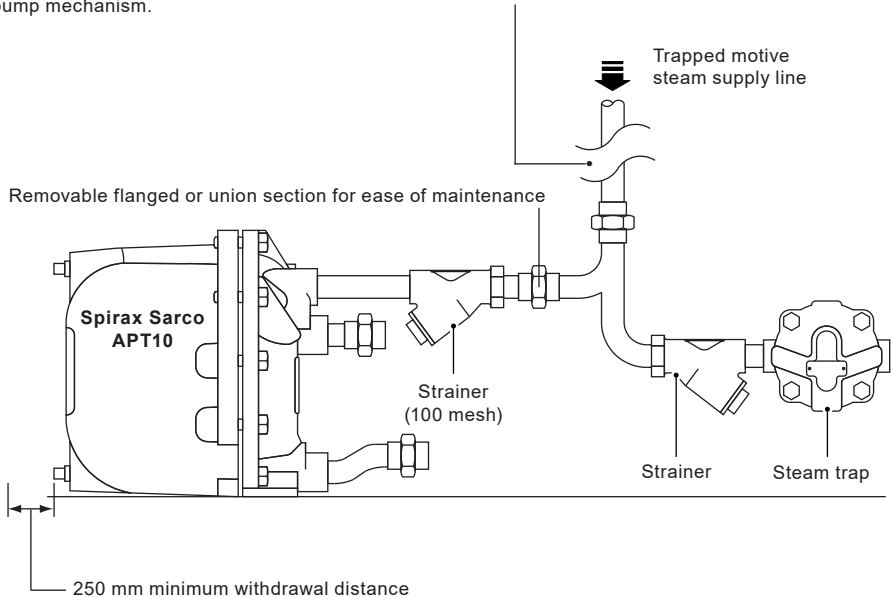

Fig. 4 Suggested coupling of motive supply and exhaust lines
3.3 Connections (refer to installation diagram Fig. 4 opposite)
- 4.1** After ensuring inlet and outlet pipe connections and steam motive/exhaust connections are coupled in accordance with Fig.4 and 5, slowly open motive steam inlet line to supply pressure to the APT10. Ensure exhaust/balance line is open and not restricted in any way.